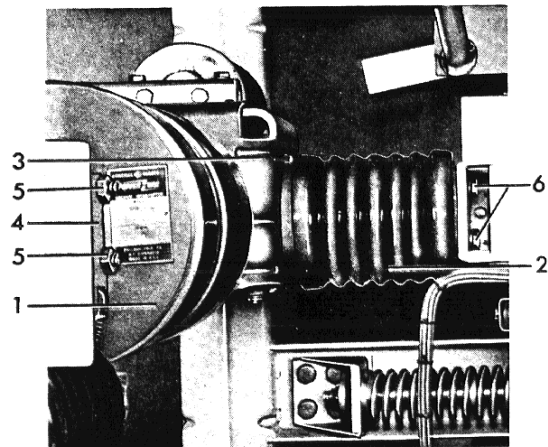

Fig. 26 (8039379) Interrupter Support
Refer to Figure 26. The interrupter assembly being replaced should be removed as a unit (See Step 1). This includes the interrupter (1), support (3), and the operating rod (6), Figure 12. It is not necessary to remove or loosen any of the primary studs (11) and (12), Figure 5. These have been accurately aligned at the factory to assure proper contacting with the metal clad primary contacts.